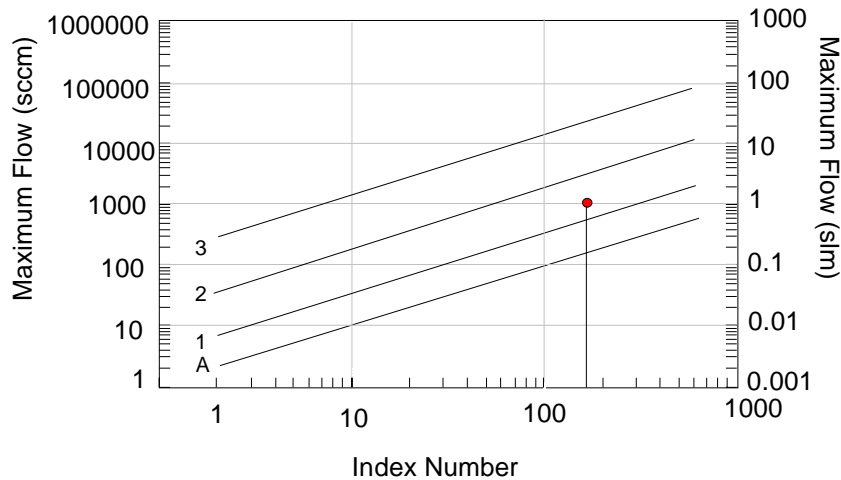

Figure 13: Flow Range Selection
The valves are not calibrated to match the valve orifice selection graph in Figure 13, page 57. The graph displays *typical* valve behavior.
- Use the index number and your maximum flow rate, to determine the orifice size from Figure 13.
3. Use the index number and the maximum flow rate to determine the orifice number from Figure 13, page 57.